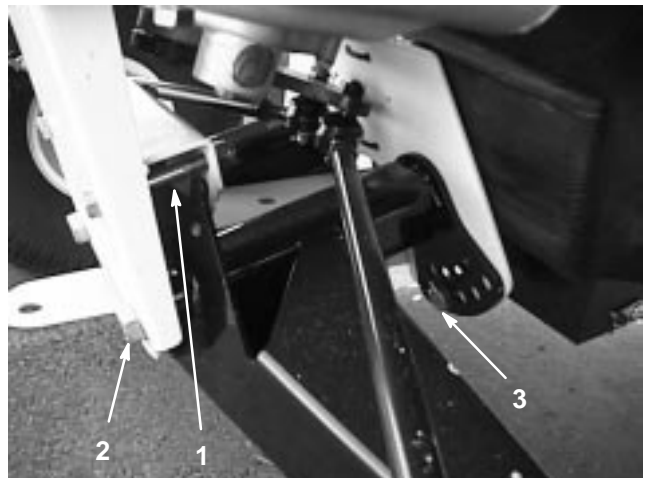

Figure 23
2. Remove the travel limiting bolt (Fig. 23).
3. Loosen the centering bolts in the front “A” frame (Fig. 23).
4. Remove the ride height adjustment bolt (Fig. 23).
5. Rotate the front “A” frame to the desired position (Fig. 23). The distance from the bottom side of the front hitch to the ground should be 9-1/2 to 10-1/4 in. (24.1 to 26 cm) with the tires inflated to 12 psi (83 kPa).
6. Replace the ride height adjustment bolt and the travel limiting bolt (Fig. 23).